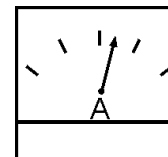

Figure 45. Ammeter (Load)
11. Observe the generator's ammeter (Figure 45) and verify it reads the anticipated amount of current with respect to the load. The ammeter will only display a current reading if a load is in use.